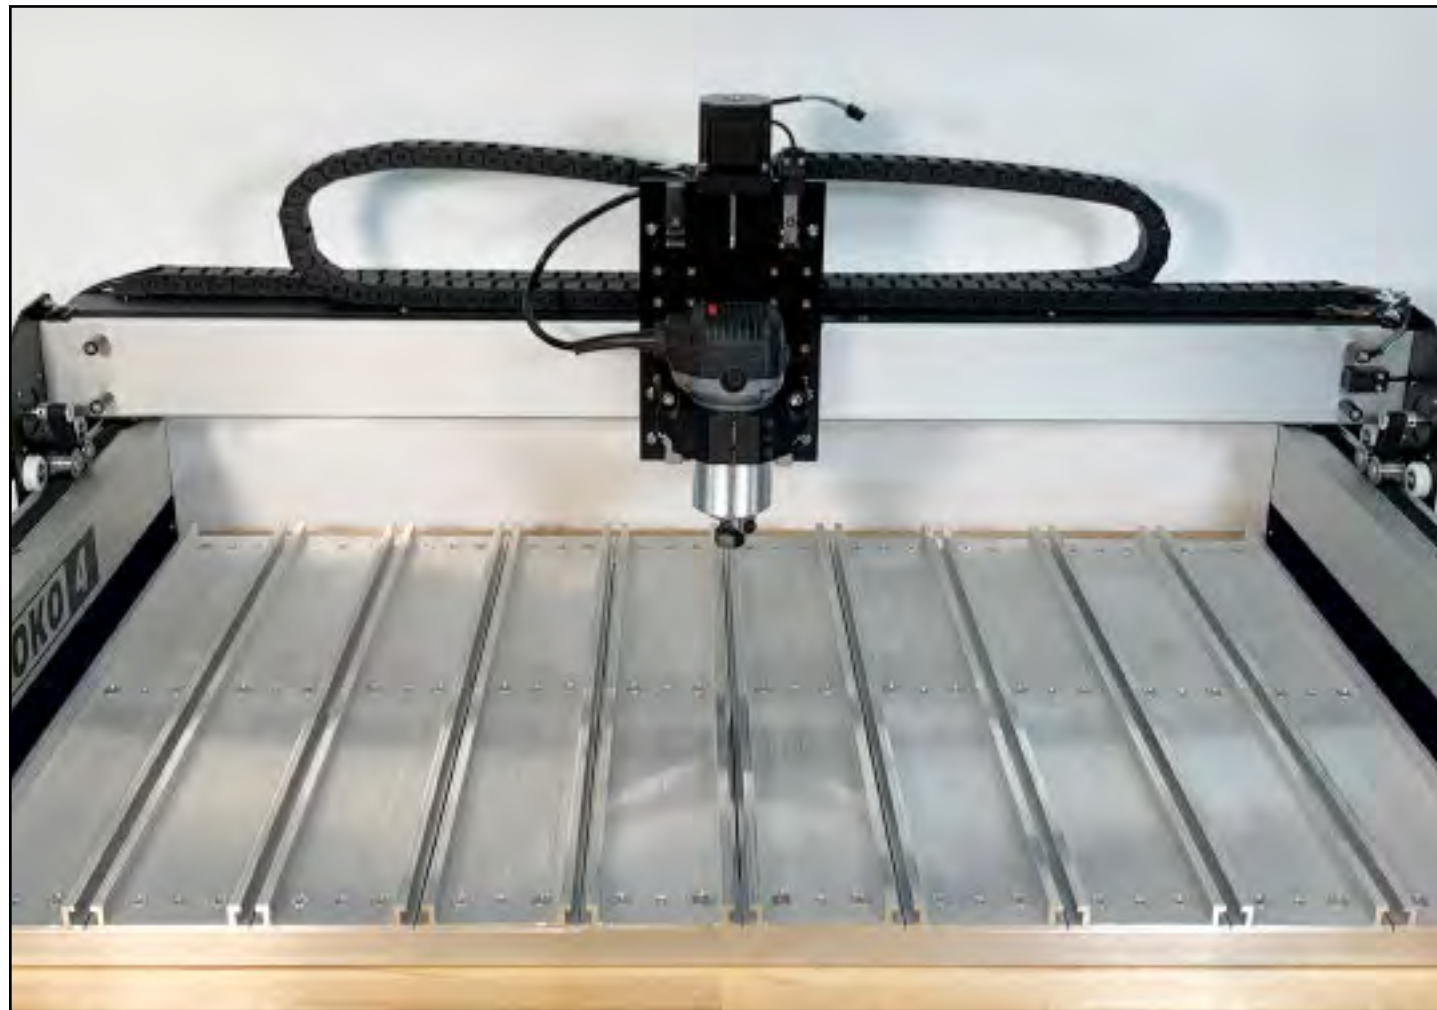

Figure 8-2
1. Position the ten (10) hybrid extrusions across the baseframe, from front to back. See **Fig. 8-2**.
2. Use a 4mm hex key and six (6) M6×10mm FHS to loosely attach each hybrid extrusion to the baseframe.